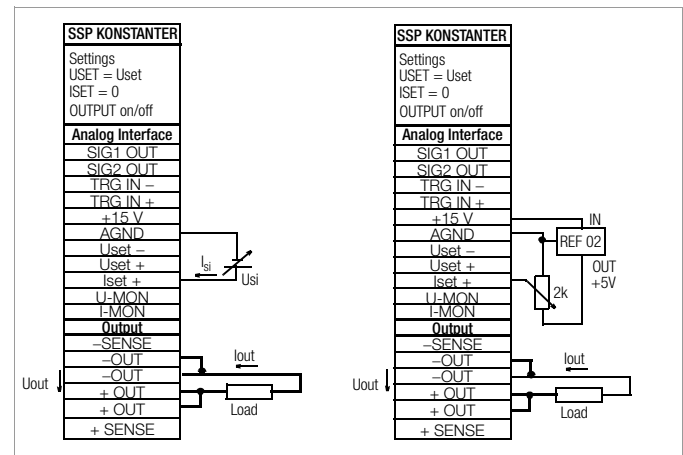

Figure 5.5 Wiring for Controlling Output Current with External Voltage / External Potentiometer
- Control voltage **Usi** may **not** be connected to the **negative output pole** at the **load side**. (Figure 5.5)
- If **remote adjustment of output current** is to be accomplished by means of a **potentiometer**, wiring can be laid out as shown in Figure 5.5.